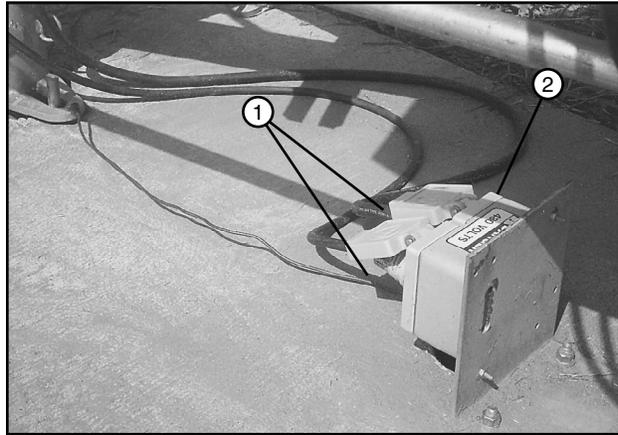

Figure 38-1 1. Power and Pump Control Plugs
5. Unplug the power plug and then unplug the pump control plug from the receptacle. See Figure 38-1.